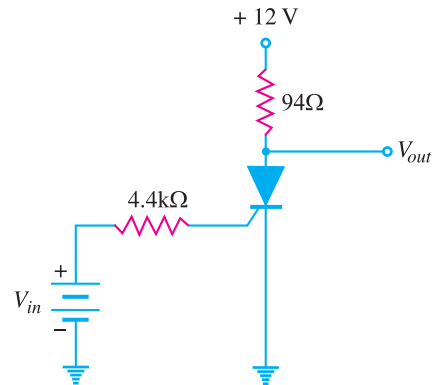

Fig. 20.31
6. In Fig. 20.31, if the trigger current of the SCR is 1.5 mA, what is the input voltage that triggers the SCR? Given $V_T = 0.7\text{ V}$. [7.3V]